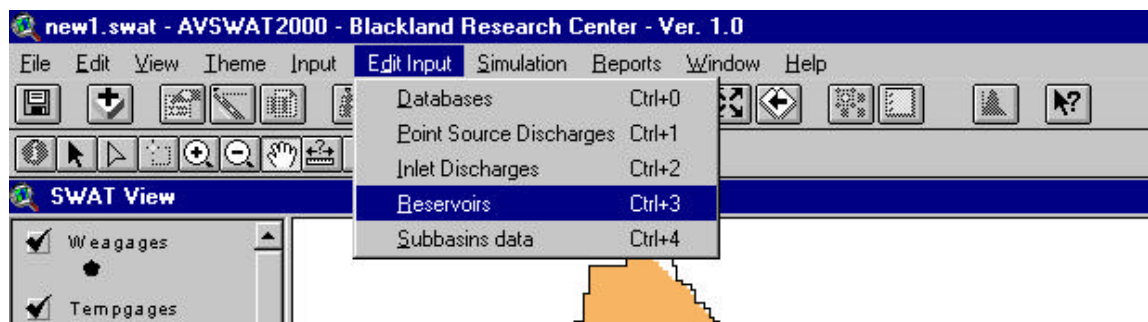

Figure 11.2
1. Select **Reservoirs** from the **Edit Input** menu (or press **Ctrl+3**) (Figure 11.2).